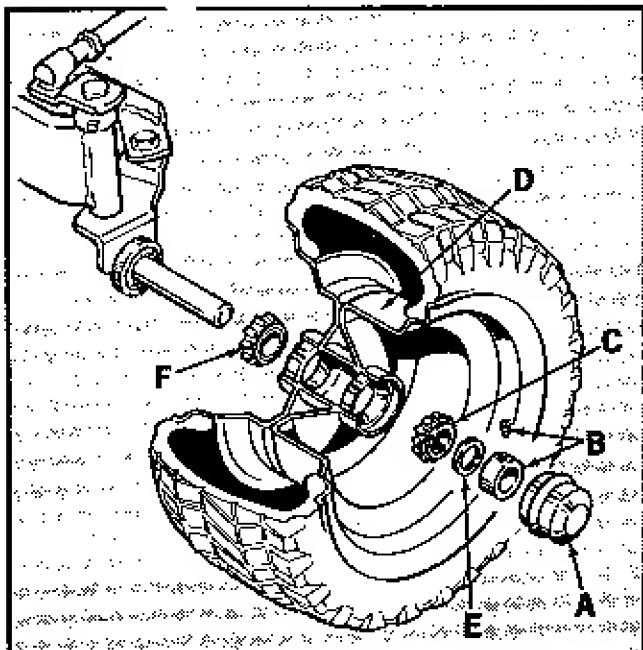

Figure 33. Left front spindle and axle assembly.
2. See figure 33. Remove the grease cup (A) by prying off with a screw driver.
3. Use an Allen wrench to loosen the set collar (B).
4. Remove the set collar (B), washer (E), outer bearing (C), wheel (D), and inner bearing (F). It is best to keep the two bearings separate so you can put them back in their original place. Wash the bearing shaft, bearings, and wheel housing with a solvent such as kerosene and wipe dry. Inspect the
6. See figure 33. Replace the inner bearing and slide the wheel on the axle.